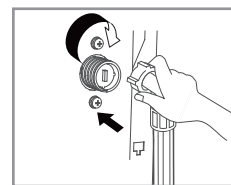

Fig. 22
- **Insert the filter into the valve** and tighten up the inlet hose. ( Fig. 22)